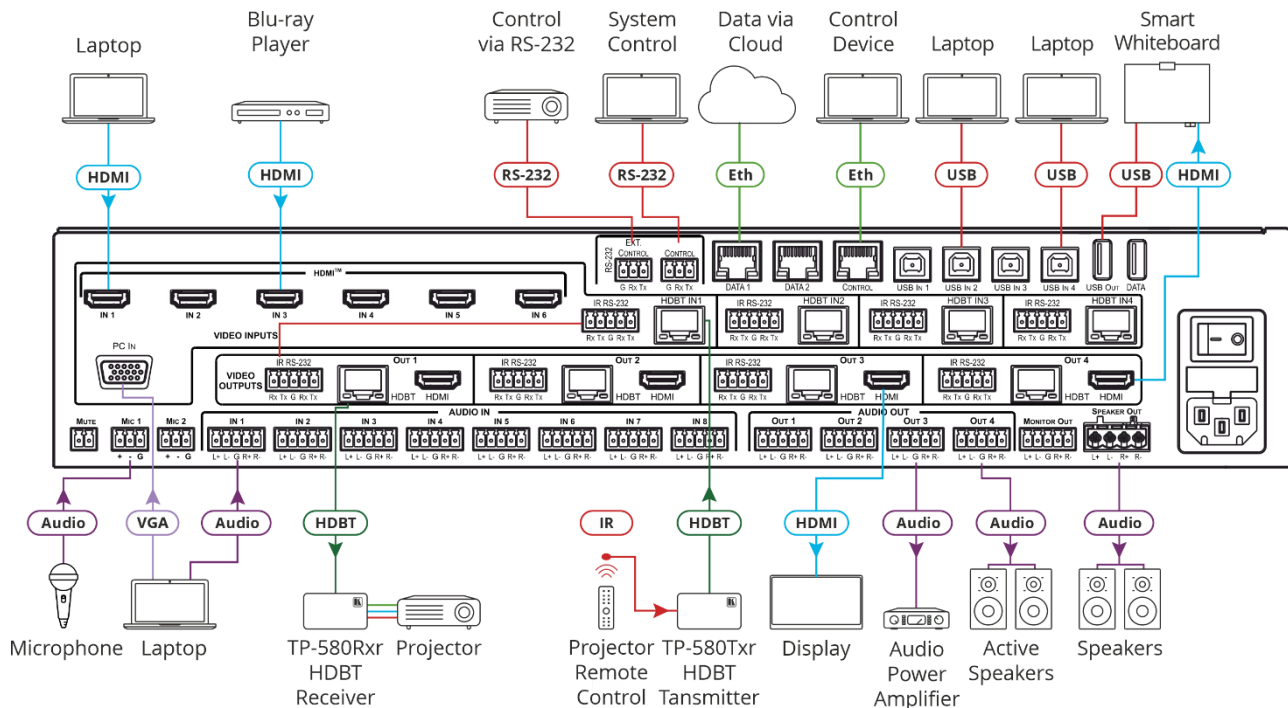

Figure 3: Connecting to the VP-554X Rear Panel
To connect VP-554X as illustrated in the example in Figure 3:
- RS-232 EXT CONTROL 3-pin terminal block connector (19) port to an RS-232 controlled device to control it via commands sent from the **VP-554X**.
- RS-232 CONTROL 3-pin terminal block connector (20) port to a PC to control the unit.
9. Connect the MUTE 2-pin terminal block contact-closure remote-control pins to a switch to mute/unmute the audio output by momentarily pressing the switch (not shown in Figure 3).
10. Connect the ETHERNET port (14) (on the front panel), DATA port (21) and/or CONTROL port (22) (on the rear panel), to the Network (see Operating via Ethernet on page 27).